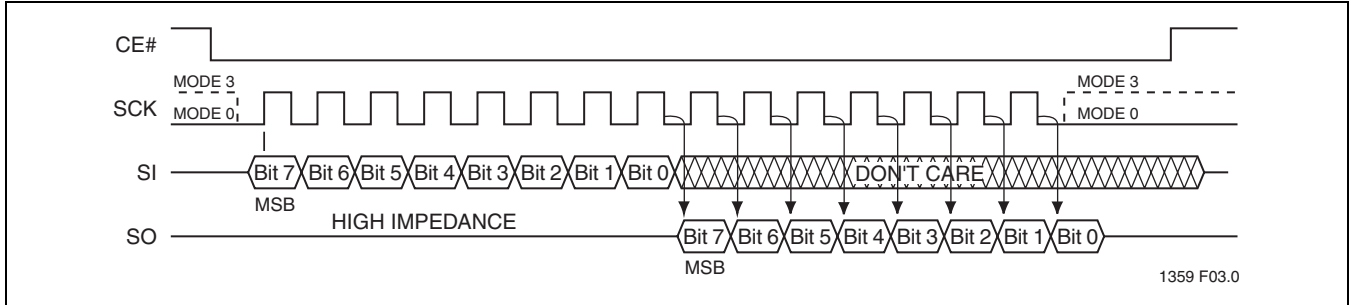
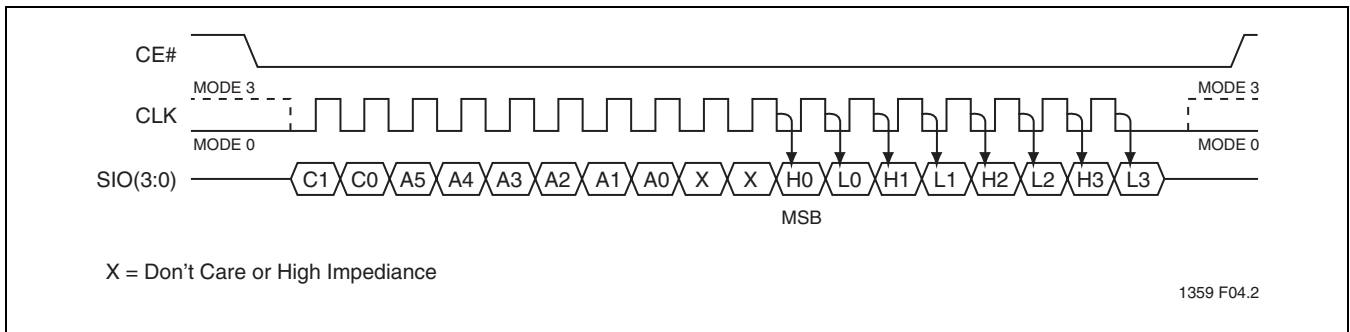

FIGURE 4: SPI Protocol (Traditional 25 Serial SPI Device)
FIGURE 5: SQI Serial Quad I/O Protocol
SQI Flash Memory protocol supports both Mode 0 (0,0) and Mode 3 (1,1) bus operations. The difference between the two modes, as shown in Figures 4 and 5, is the state of the SCK signal when the bus master is in Stand-by mode and no data is being transferred. The SCK signal is low for Mode 0 and SCK signal is high for Mode 3. For both modes, the Serial Data I/O (SIO[3:0]) is sampled at the rising edge of the SCK clock signal for input, and driven after the falling edge of the SCK clock signal for output. The traditional SPI protocol uses separate input (SI) and output (SO) data signals as shown in Figure 4. The SST26VF016/032 use four multiplexed signals, SIO[3:0], for both data in and data out, as shown in Figure 5. This quadruples the traditional bus transfer speed at the same clock frequency, without the need for more pins on the package.